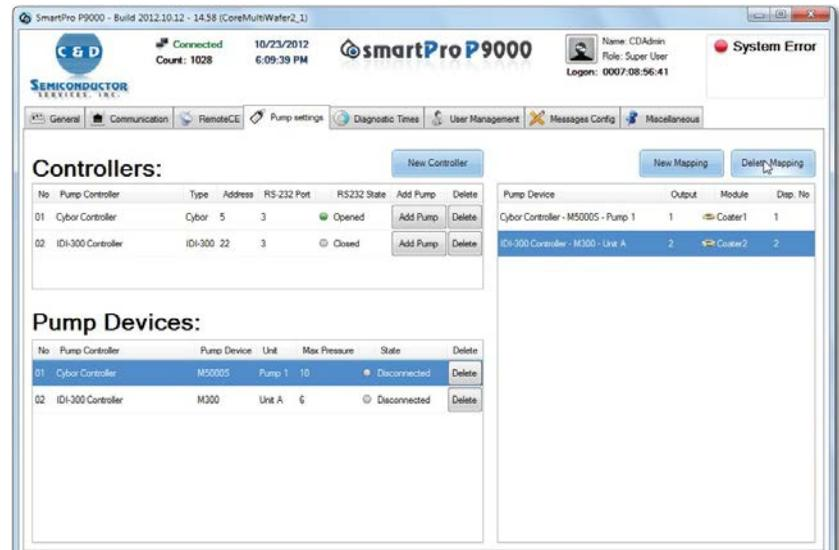

FIGURE 4-14: Pumps linked to modules
6. When the confirmation message appears, click **Yes**. Figure 4-14 shows the mapping between the pumps and modules.